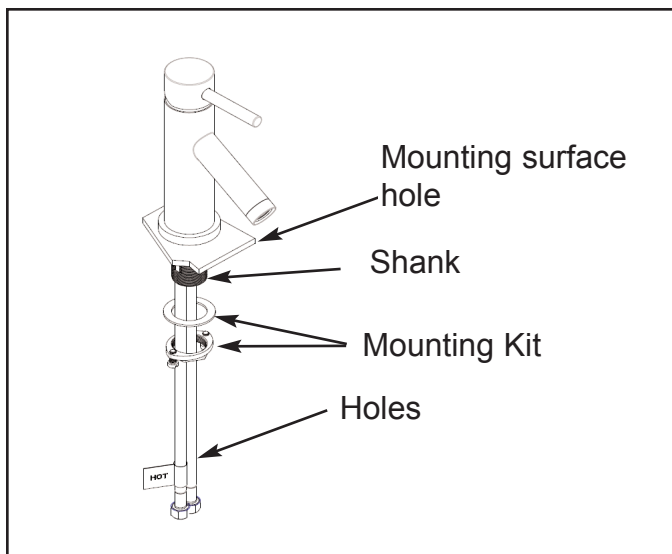

Figure 1
- 1. Place SHANK & HOSES through MOUNTING SURFACE. Secure spout into place with MOUNTING KIT. See Fig. 1**